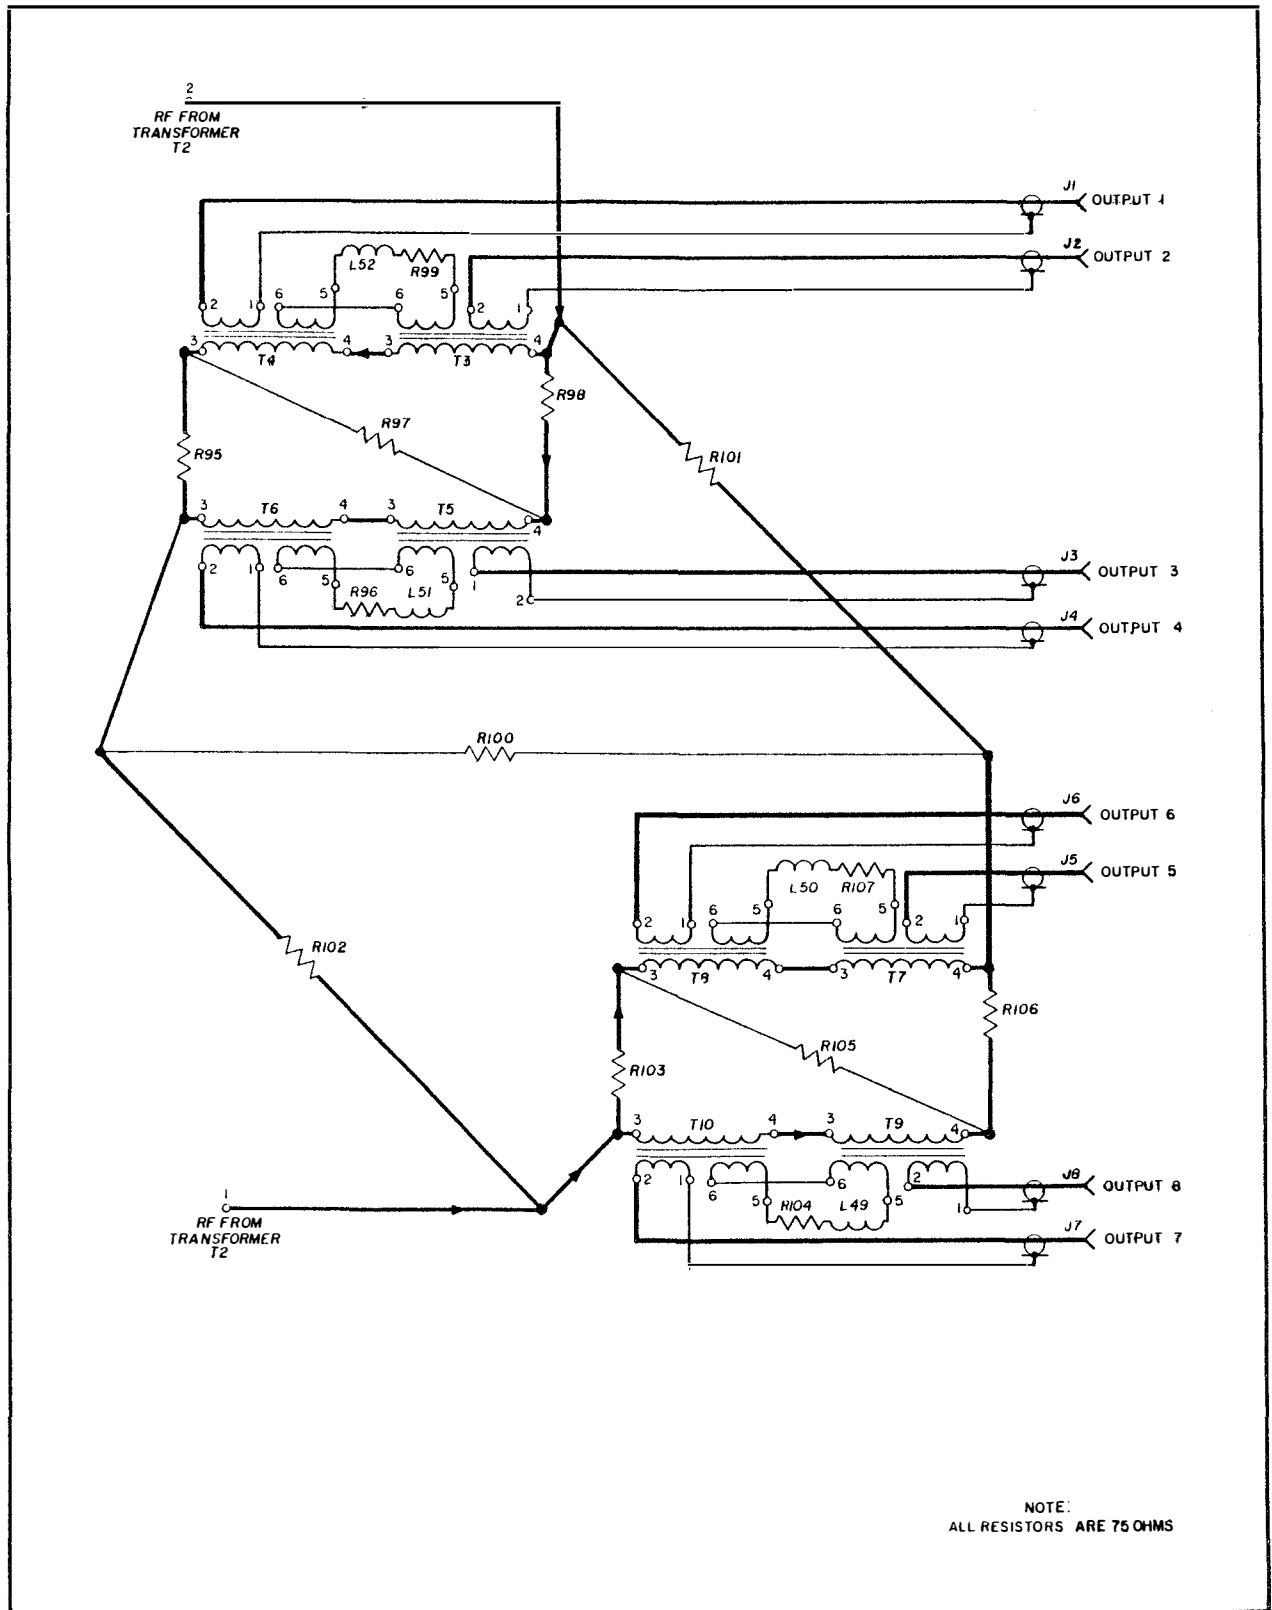

Figure 4-3. Antenna Coupler CU-872/U, Hybrid Output, Simplified Schematic Diagram
a. The outputs are taken from a transformer hybrid resistive terminated network. For clarity, the circuit components of the hybrid output are rearranged into a bridged-bridge network as shown in figure 4-3.